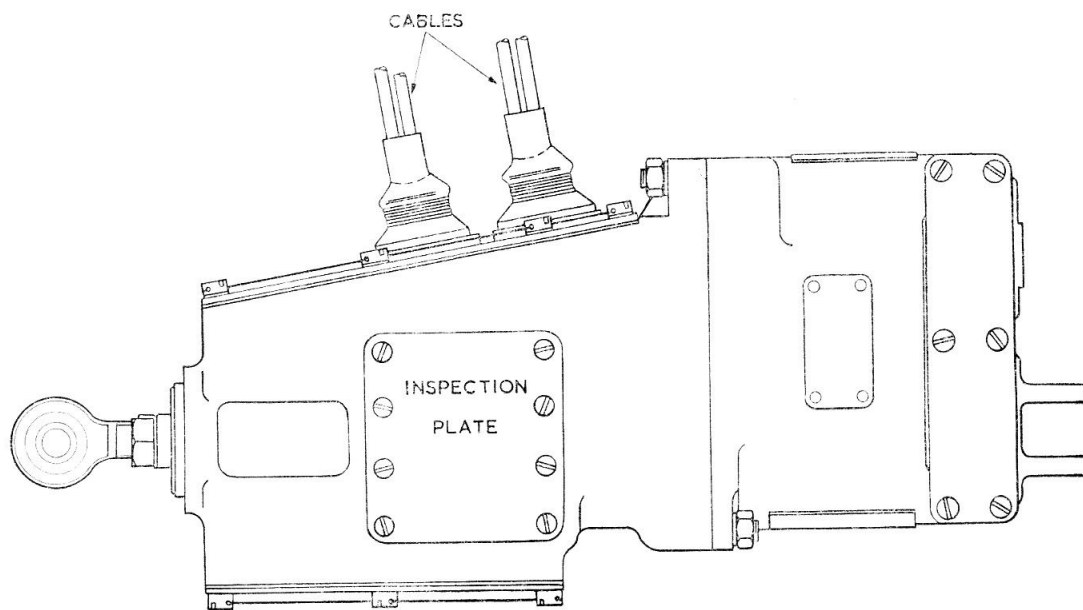

Fig. 1. Side view of typical A1800 series actuator
2. A typical unit in the series is illustrated in fig. 1 and 2. The actuator is of in-line construction and embodies two identical reversible motors (main and auxiliary), each driving the screwshaft through an epicyclic gearbox. An electro-magnetic brake, a single